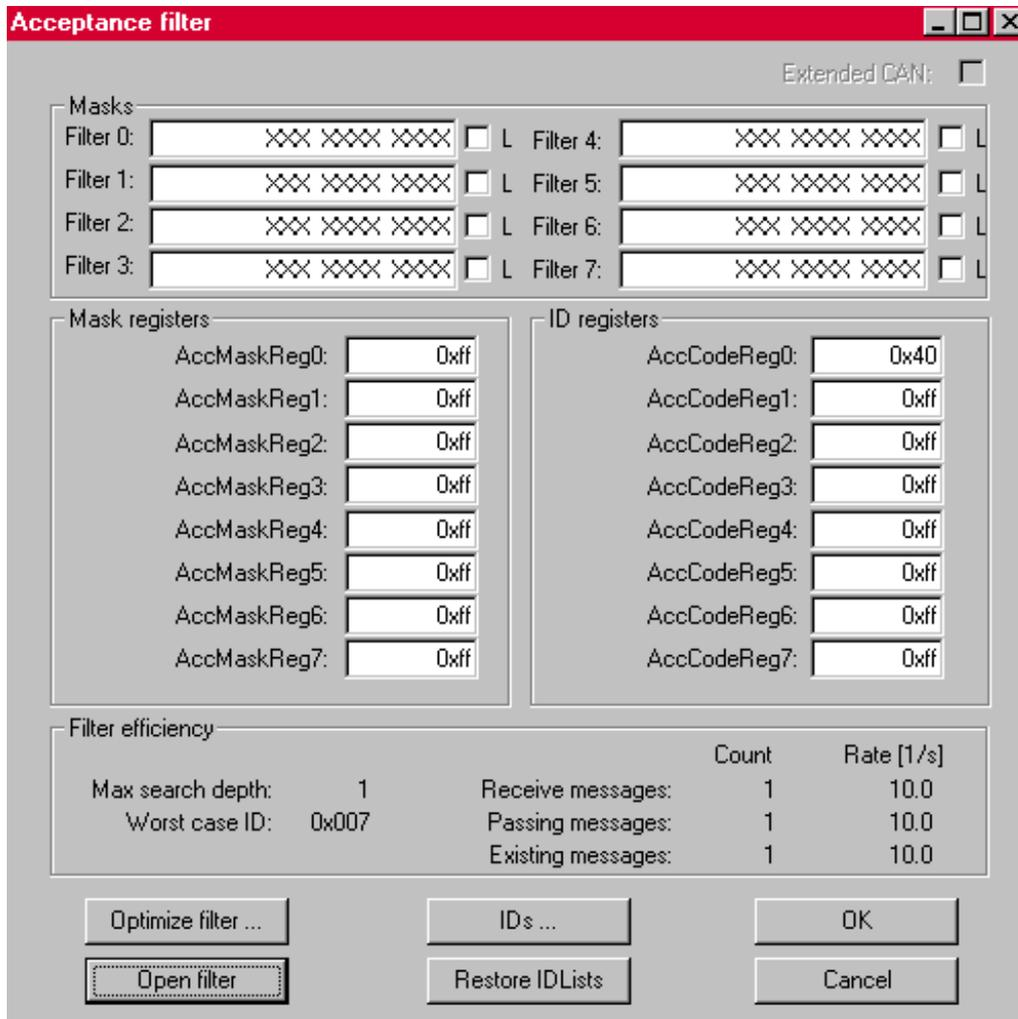

Figure 6-8 Acceptance Filters For The CAN Controller (for HC12)
In order to minimize the number of messages that should not be received by your ECU, you can set a hardware filter by means of the acceptance register (1) (see Figure 6-8).